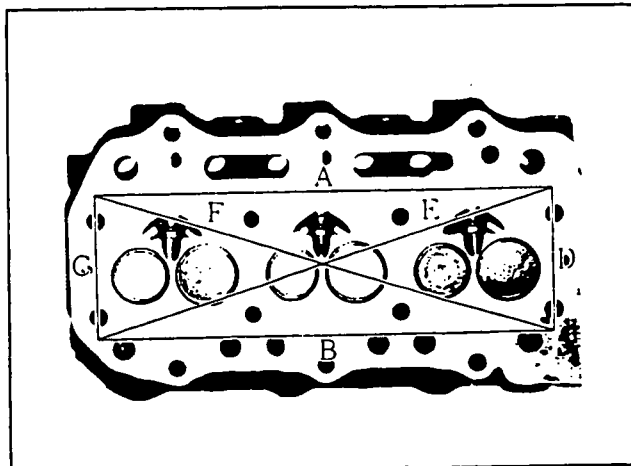

Figure 6. Check Points for Cylinder Head Warp
Use a straight edge and a thickness gauge to check warpage on the cylinder head lower face. Check with the straight edge at six (6) points, as shown in Figure 6. If warped excessively, correct with a surface grinder.